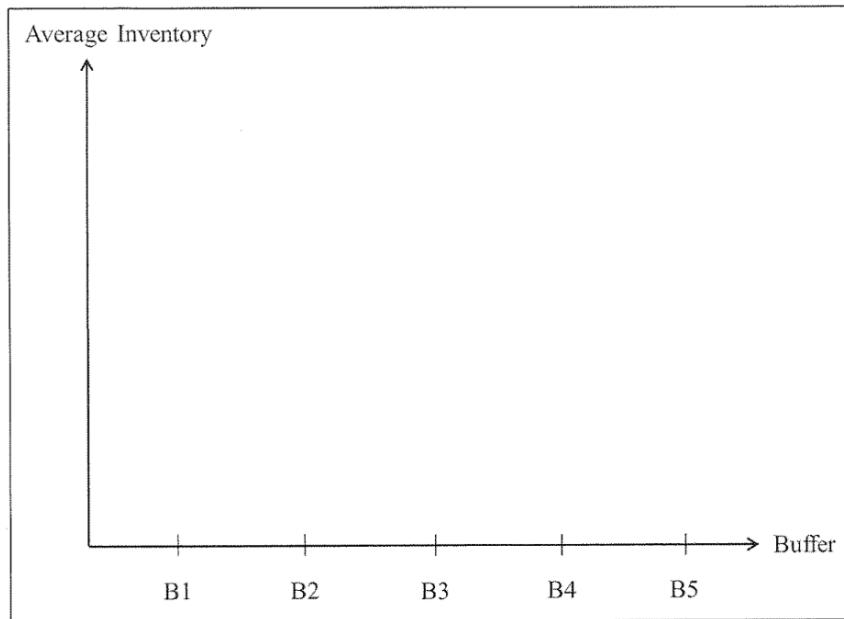

Figure 4. Buffer Space Distribution
c. Suppose there is a finite buffer between each pair of machines. That is, there are a total of five finite buffers in the transfer line. Assume that the buffers are equally sized. Sketch roughly what the average inventory distribution looks like on the graph in Figure 4. You need not have numerical labels on the Y-axis. Explain qualitatively why the graph looks like it does.